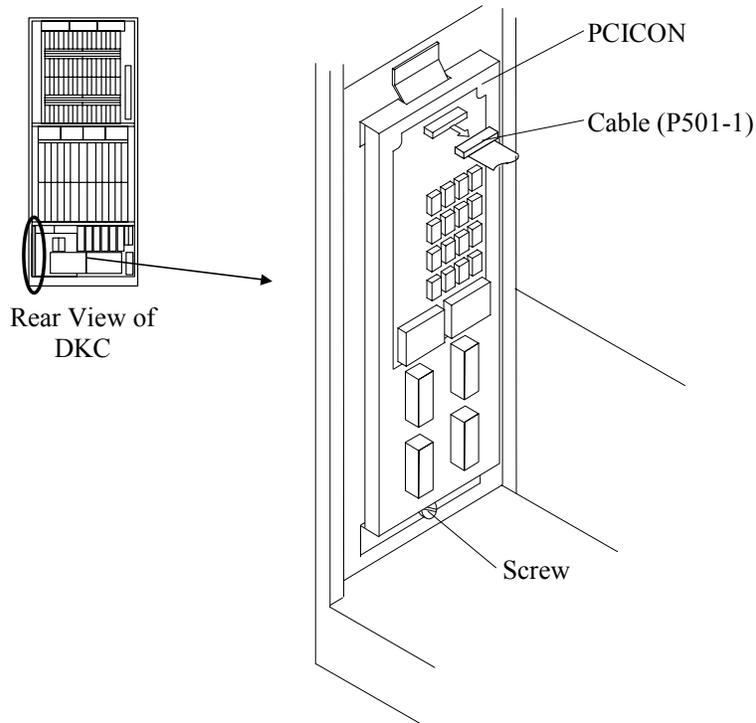

Fig.T4-3 Removal of PCICON
- a. Attach the PCICON and fasten the screw. Refer to Fig. T4-3.